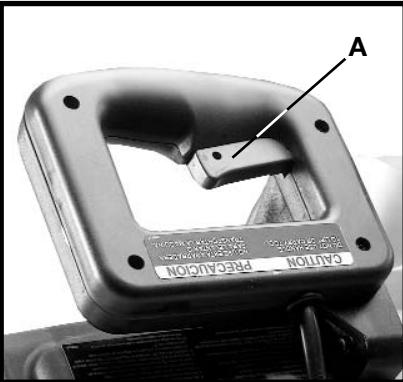

Fig. 10
To start the machine, depress switch trigger (A) Fig. 10. To stop the machine, release the switch trigger. This miter saw is equipped with an automatic electric brake. As soon as the switch trigger (A) Fig. 10 is released, the electric brake is activated and stops the blade in seconds.
⚠️ WARNING: A TURNING SAW BLADE CAN BE HAZARDOUS. AFTER COMPLETING CUT, RELEASE THE SWITCH TRIGGER (A) FIG. 10 TO ACTIVATE BLADE BRAKE. KEEP CUTTINGHEAD DOWN UNTIL BLADE HAS COME TO A COMPLETE STOP.